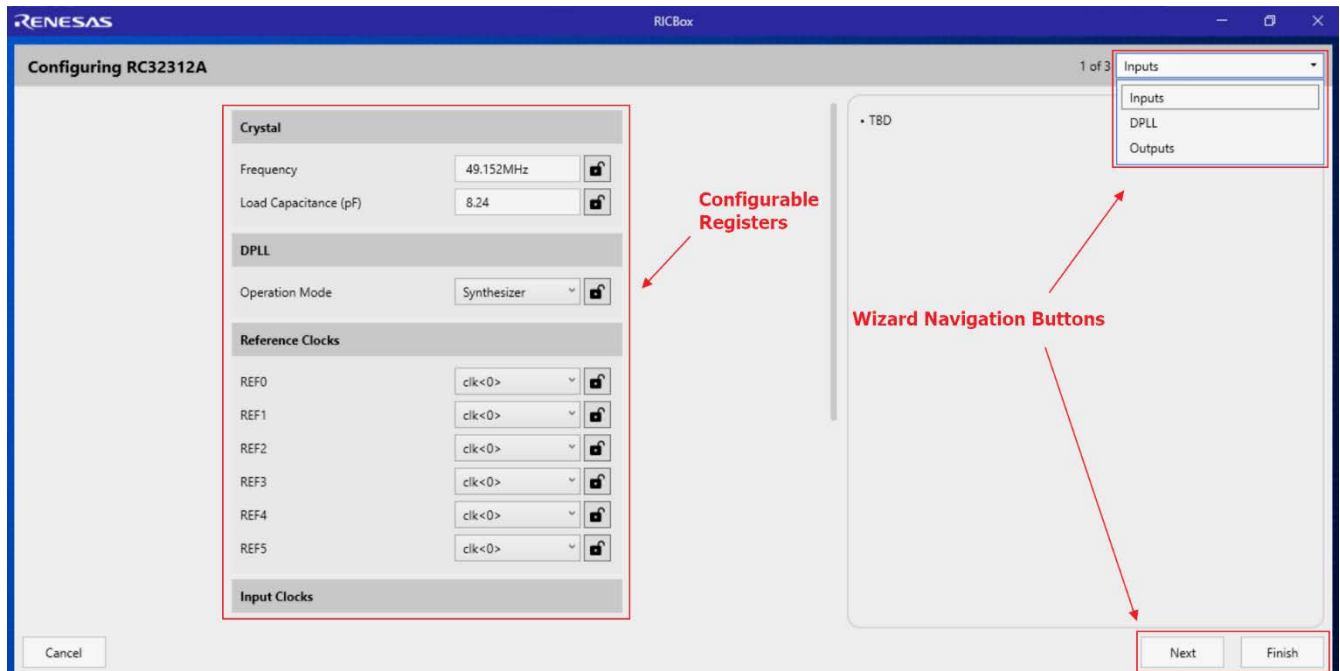

Figure 28. RICBox Wizard Navigation
5. Follow the on-screen wizard (see Figure 28) to configure the device for general evaluation starting from “Inputs”, then “DPLL”, and finally “Outputs”.